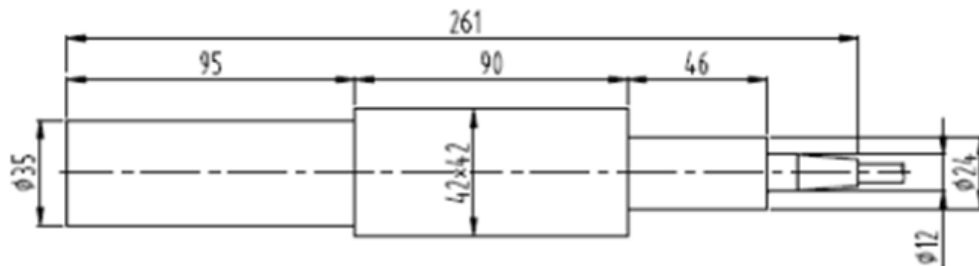

Figure 2. Dimension drawing of output isolator (Unit: mm).
(2) Isolated output isolator (As shown in Fig. 2).